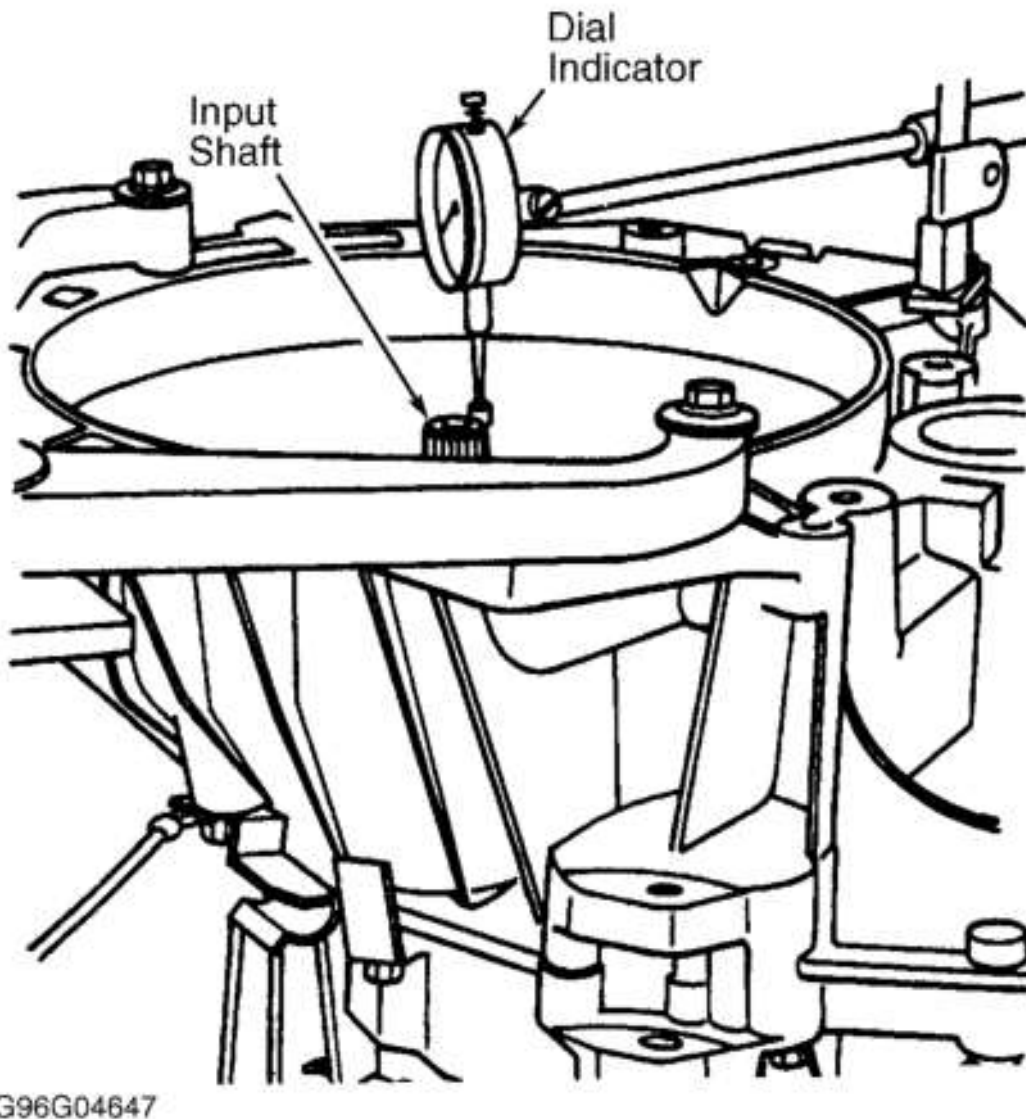

Fig. 14: Measuring Input Shaft End Play
- Using Pinion Spline Socket (T94P-7025-EH), rotate input shaft back and forth approximately 20 times to seat bearings. Mount dial indicator on clutch housing with indicator pointer on end of input shaft. See **Fig. 14**. Zero dial indicator. Using pry bar through control selector lever cover opening, raise input shaft and note dial indicator reading. Repeat at least 3 times and calculate average reading.